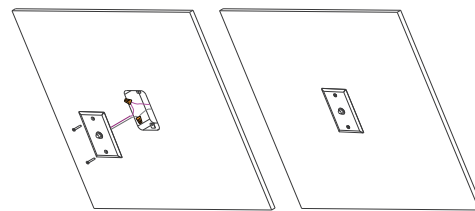

Figure 2-2
3. Securely fasten the plate onto the junction box using 2 screws (refer to Figure 2-2).